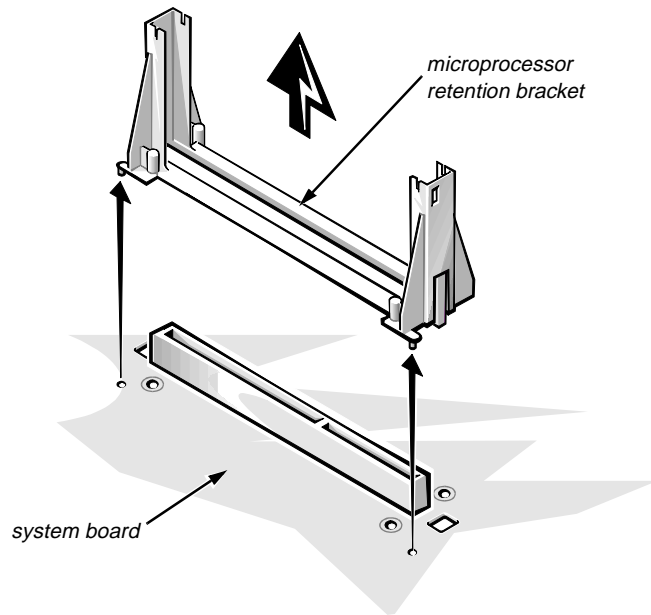

Figure 4-23. Microprocessor Retention Bracket Removal
5. Remove the microprocessor retention bracket by pressing outward on the clips holding it to the system board until the microprocessor retention bracket can be removed (see Figures 4-23 and 4-24).